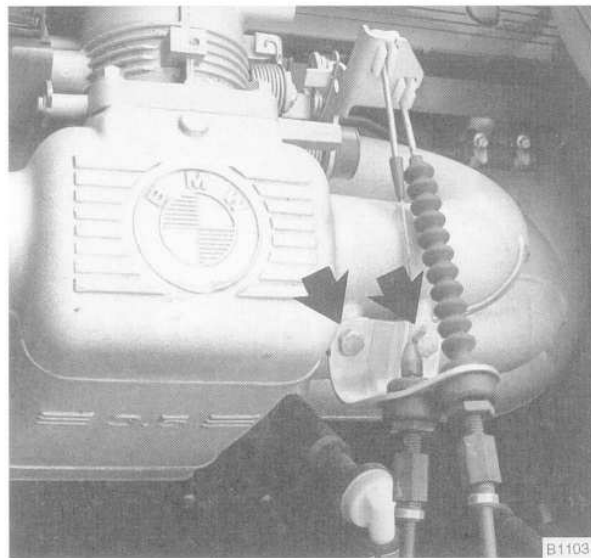

Fig. 25. Throttle, accelerator, and cruise control cable bracket mounting bolts (arrows).
9. Unhook the accelerator and cruise control cables from the throttle levers. Remove the cable bracket from the intake manifold. See Fig. 25.